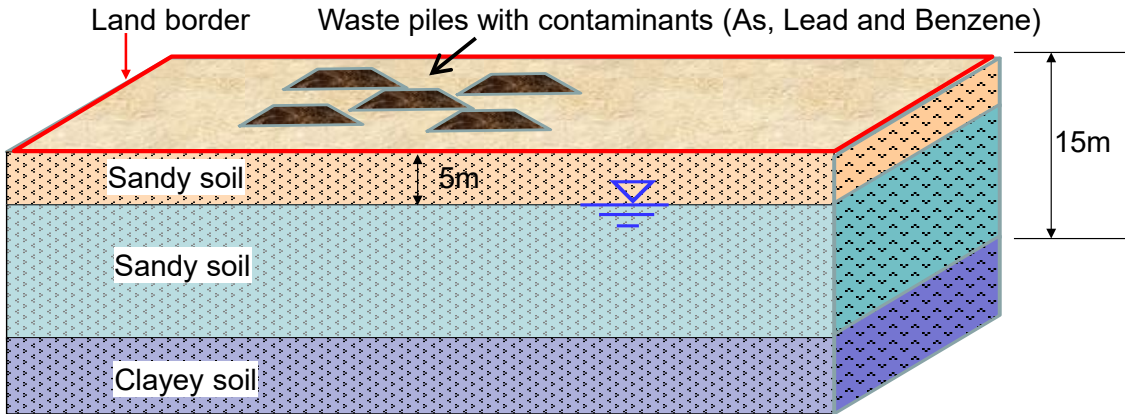

Fig.3
4. There is a former site of chemical factory with waste piles on the ground surface. As this waste contains hazardous chemicals, such as benzene, arsenic, this land is designated as a contaminated site for which the land owner or the polluter should take necessary action to prevent the harmful effects to human health and the surrounding environment. Fig.3 shows the ground conditions of the site, e.g,